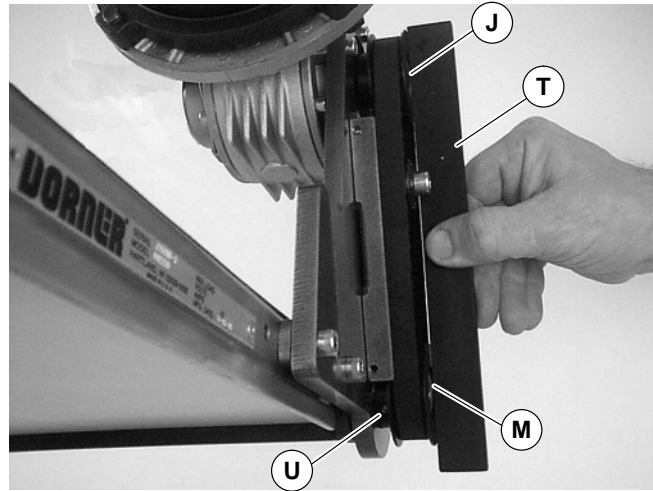

Figure 8
7. Using a straight edge (T of Figure 8), align driven pulley (M) with drive pulley (J). Tighten driven pulley set screws (U).